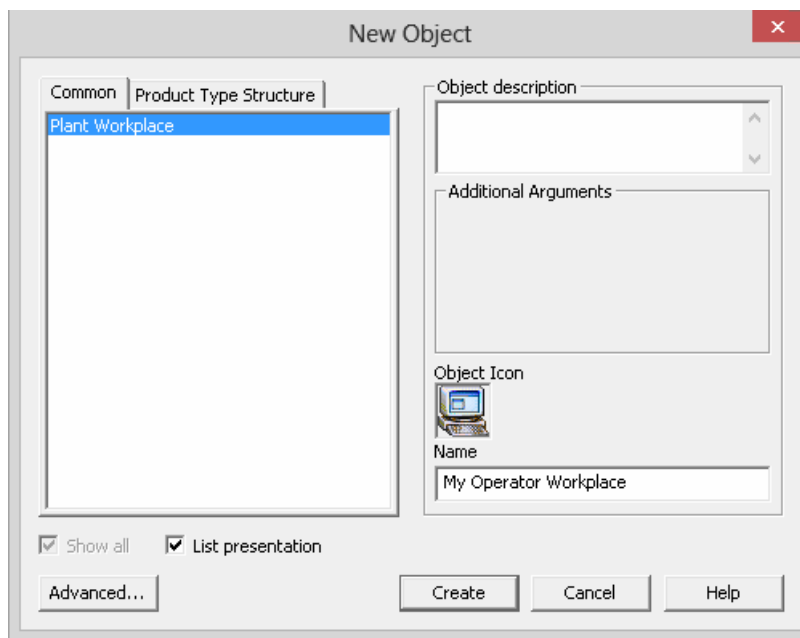

Figure 2. New Object Dialog Box
4. In the New Object dialog box (see Figure 2), type a name and a description for your new Operator Workplace (of the type Plant Workplace) and click **Create**.